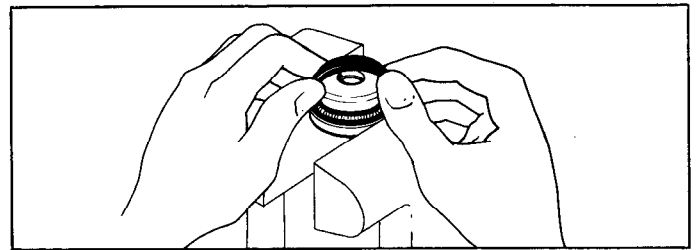
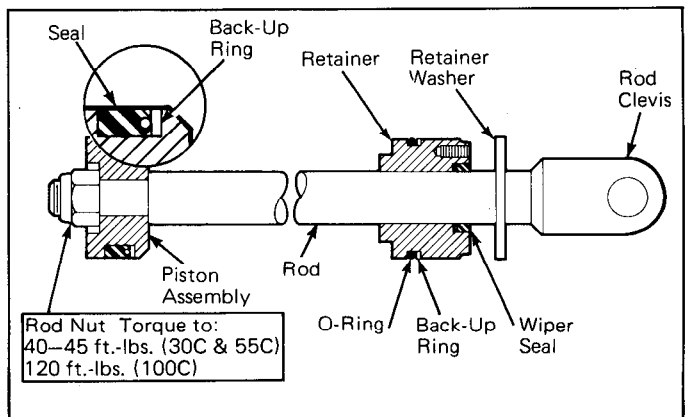

Figure 10. Install Seal
Figure 11. Rod Assembly
- Place the piston in a soft-jawed vise and lubricate the piston with hydraulic oil. Hook one side of the seal in the groove and push it over the piston, see Figure 10. Install the back-up ring. See Figure 11 for correct placement of seals.
- Place the retainer in a soft-jawed vise and lubricate the retainer with hydraulic oil. Hook one side of the O-ring in the groove and push it over the retainer. Avoid excessive stretching of the O-ring. Install the back-up ring. See Figure 11 for correct seal placement. Remove the retainer from the vise and install the wiper seal.
- Slide the retainer washer and the retainer assembly onto the rod. See Figure 11.
- Slide the piston in place on the rod. Install and torque the rod nut on 30C and 55C units to 40–45 ft.-lb. (lubed) and on 100C units to 120 ft.-lb. (lubed). See Figure 11.
- Install the retainer ring in its groove, keeping the retainer washer against the rod clevis. See Figure 11. Position the retainer washer over the retainer and tighten the three socket head capscrews and lockwashers to 20–25 ft.-lb. (lubed).